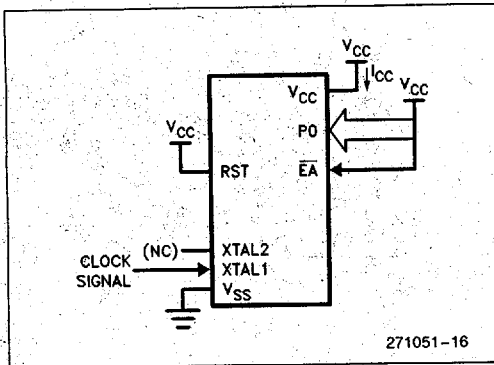

Figure 5. I_{CC} Test Condition, Active Mode.
5. I_{CC} is measured with all output pins disconnected; XTAL1 driven with TCLCH, TCHCL = 5ns, $V_{IL} = V_{SS} + .5V$, $V_{IH} = V_{CC} - 0.5V$ measured with \overline{EA} and RST connected to V_{CC} . "Idle" current is measured with \overline{EA} and RST connected to V_{SS} . "Power Down" current is measured with XTAL1, \overline{EA} and RST connected to V_{SS} . (See Figures 5 through 8 for a graphic representation of the I_{CC} test conditions.